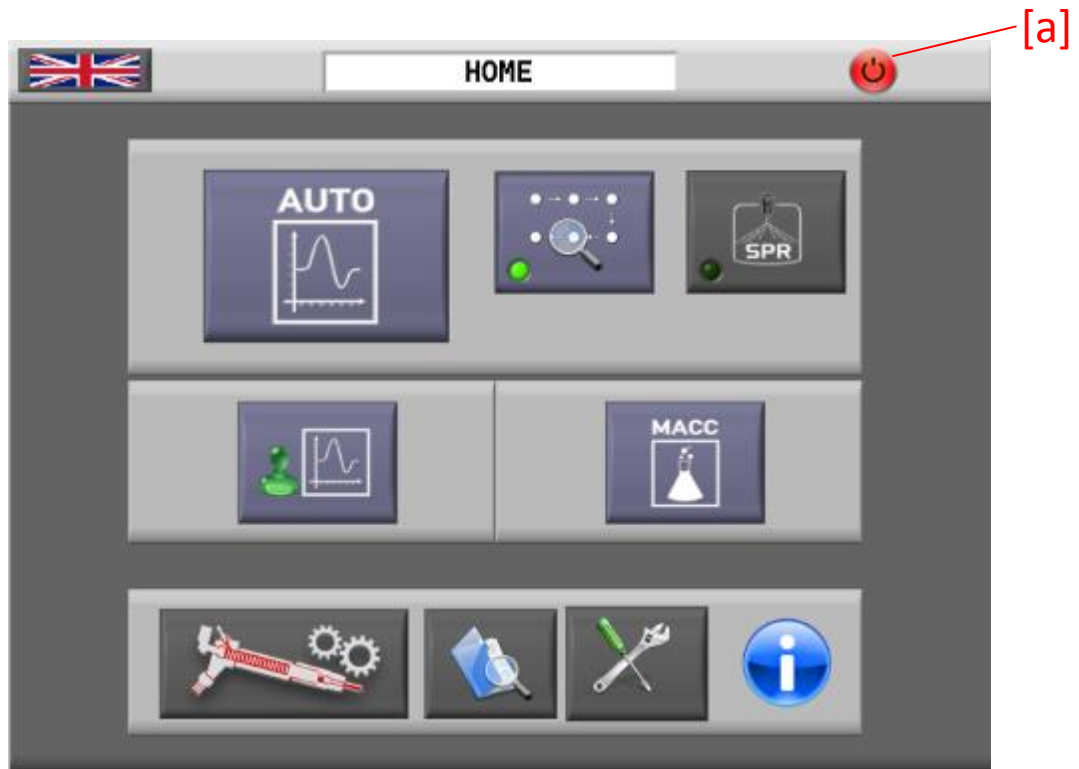

Figure 3-ix
2. Press the POWER-OFF button (Figure 3-ix-[a]) to Power down the system